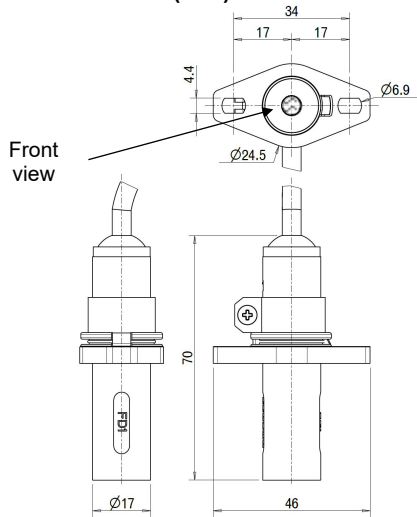

Figure 1
- ➔(a) 1: Front view (figure 1)